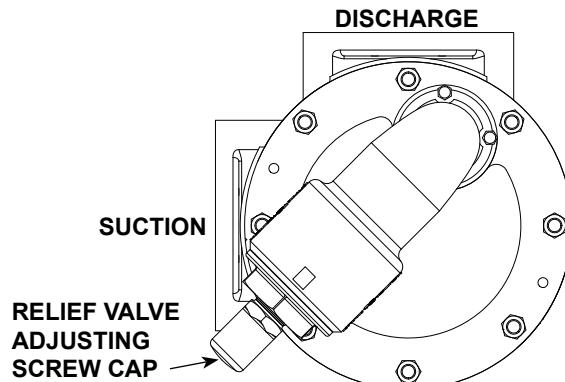

FIGURE 2
4. The relief valve adjusting screw cap must always point towards the suction side of the pump, see **Figure 2**. If the pump rotation is reversed, remove the pressure relief valve and turn end for end (see “**Pump Rotation**”, page 10).